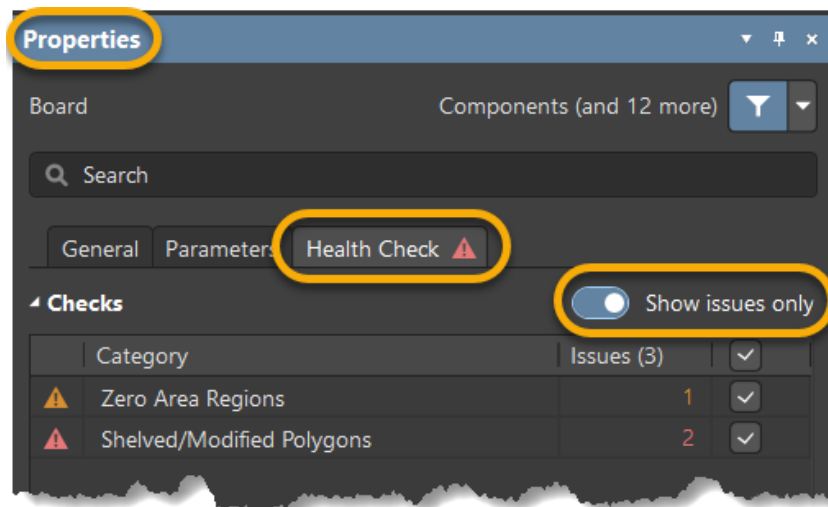

Figure 1. Health Check information for the PCB
10. A health check is performed automatically when the PCB document is opened. Anytime during the design process, you can run a specific check manually by right-clicking it in the list and selecting the **Run Check** command or run all enabled checks by clicking the **Check All** button at the bottom of the list, Figure 1.